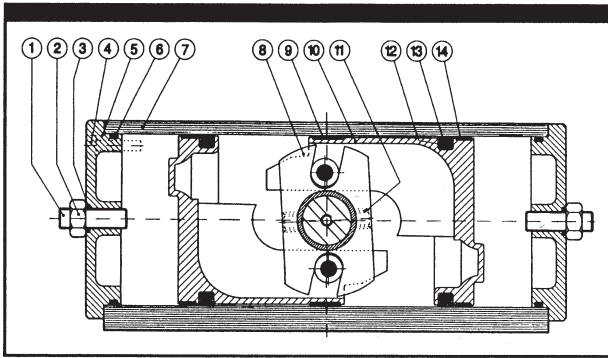
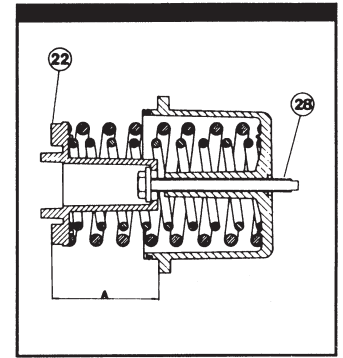
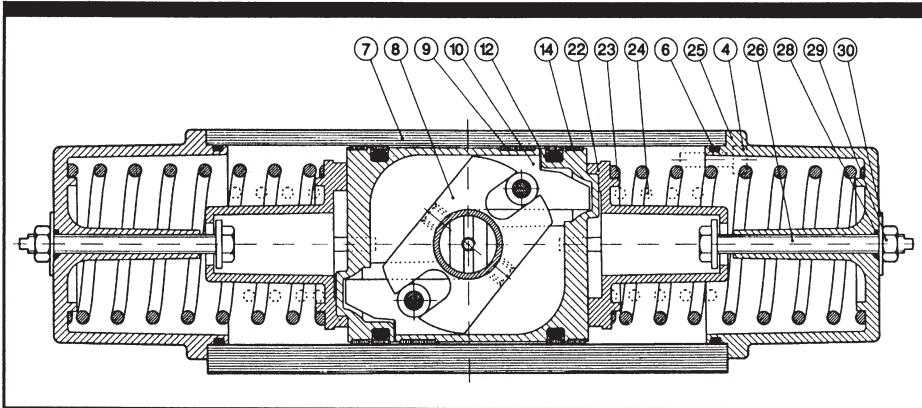

Figure 1 - RC 200-DA from above
Figure 4 - Spring Pack Pretensioning
Figure 3 - RC 200-SR from above
The pistons of standard Type DA Actuators are mounted as shown in figure 1. This provides for the highest torque at the "closed" (CW) valve position for valves that rotate clockwise to close. The pistons are then in their outermost position and the end of travel stop (yoke turning angle) can be fine adjusted  $\pm 3^\circ$ . To enable this adjustment to be done in the "open" (CCW) valve position, turn the pistons 180° about their axis as shown in Figure 3.
The pistons of standard Type SR Actuators are mounted as shown in Figure 3. Although spring force is diminished, the geometry of the mechanism provides a greater torque at the end of the spring stroke than at mid stroke. When the actuator is in the "Open" valve position (Springs fully compressed), the end of travel stop, (turning angle), can be fine adjusted  $\pm 3^\circ$ .
4. Confirm that the springs are fully extended as shown in figure 3. This can be confirmed by observing that the flats on the top drive shaft are 90° to the actuator axis on a "Fail Close" (fails CW) when viewed from the top of the actuator and parallel to the axis on a "Fail Open" (fails CCW) when viewed from the top of the actuator.
5. Loosen Locknut (29).
6. Rotate tensioning screw (26) counterclockwise until resistance is felt, then turn one more full turn.
7. Remove screws (4).
9. Rotate drive shaft (15) until the pistons are at the end of the cylinder. This can be done by turning the drive shaft with a wrench on the flats or by clamping the shaft between soft jaws in a vise and turning the actuator. Insert two close fitting rods in the holes on the end of the piston and, squeezing them, pull the piston(s) from the cylinder.
12. Rotate piston(s) 180° about their axis and reinstall them as shown in figure 1.
13. Ensure that pistons are lined up so that roller bearing (21) engages scotch yoke correctly. Once pistons are in, rotate shaft 90° to draw pistons in and confirm proper engagement. Pistons should now be in their innermost position. On sizes RC 230 through RC 280, align spring assembly so that one of three support points falls between the bosses on the piston and pins engage holes in the piston.
14. Install screws (4).
16. Tighten locknut (29).
1. Pretension spring assembly using item (26). Refer to Table 1 and Figure 4.
4. Follow instructions above for removing piston(s) (10).
7. Turn pistons 180° about their axis and reinstall them per figure 3.